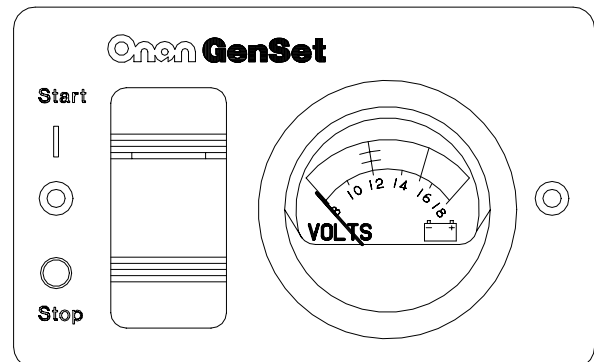

FIGURE 14. REMOTE CONTROL / DC VOLTMETER
- Remote start/stop switch with indicator lamp and DC voltmeter (Figure 14).